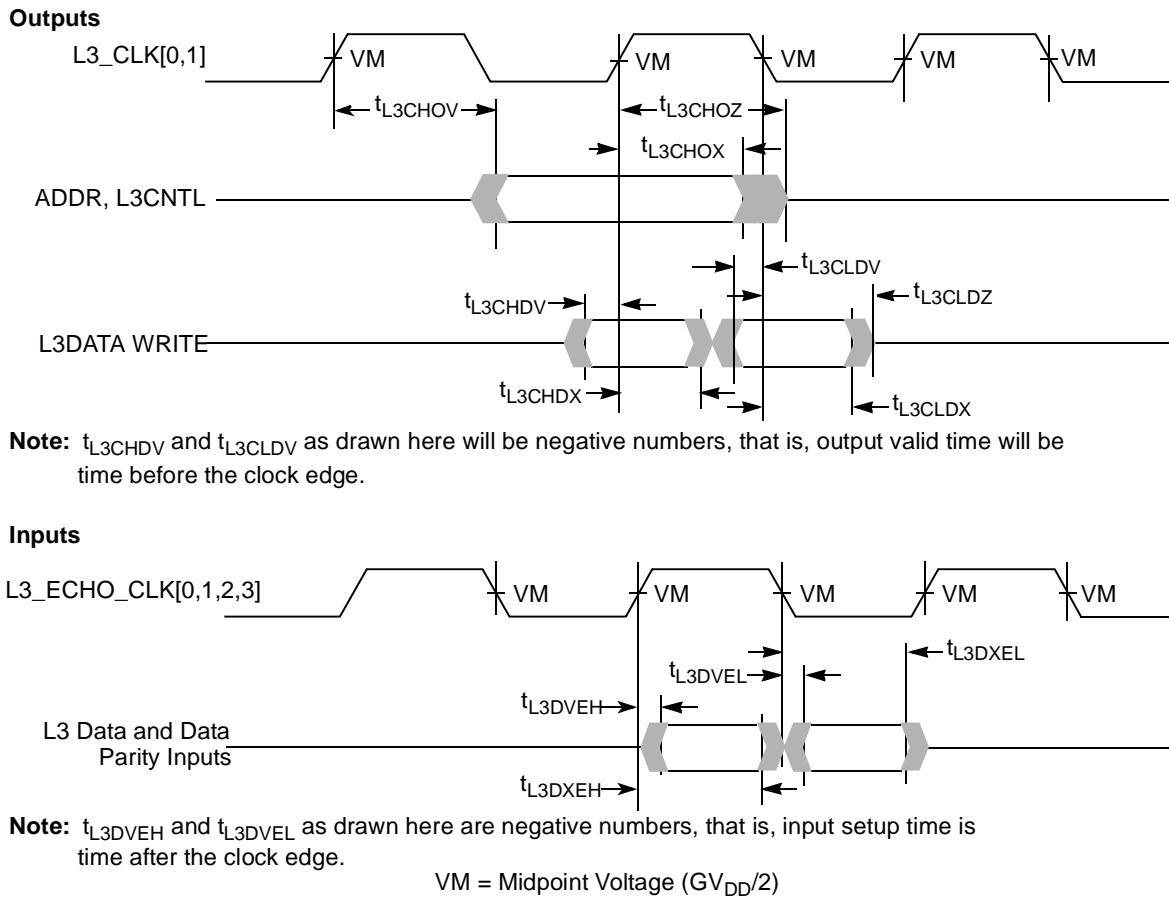

Figure 10. L3 Bus Timing Diagrams for L3 Cache DDR SRAMs
Table 13 provides the L3 bus interface AC timing specifications for the configuration as shown in Figure 9, assuming the timing relationships shown in Figure 10 and the loading shown in Figure 8.
- For DDR, all input specifications are measured from the midpoint of the signal in question to the midpoint voltage of the rising or falling edge of the input L3\_ECHO\_CLK $n$  (see Figure 10). Input timings are measured at the pins.
- For DDR, the input data will typically follow the edge of L3\_ECHO\_CLK $n$  as shown in Figure 10. For consistency with other input setup time specifications, this will be treated as negative input setup time.
- For DDR, the output data will typically lead the edge of L3\_CLK $n$  as shown in Figure 10. For consistency with other output valid time specifications, this will be treated as negative output valid time.
Figure 10 shows the L3 bus timing diagrams for the MPC7457 interfaced to MSUG2 SRAMs.
3. All input specifications are measured from the midpoint of the signal in question to the midpoint voltage of the rising edge of the input L3\_ECHO\_CLK $n$  (see Figure 10). Input timings are measured at the pins.
4. All output specifications are measured from the midpoint voltage of the rising edge of L3\_CLK $n$  to the midpoint of the signal in question. The output timings are measured at the pins. All output timings assume a purely resistive 50- $\Omega$  load (see Figure 10).